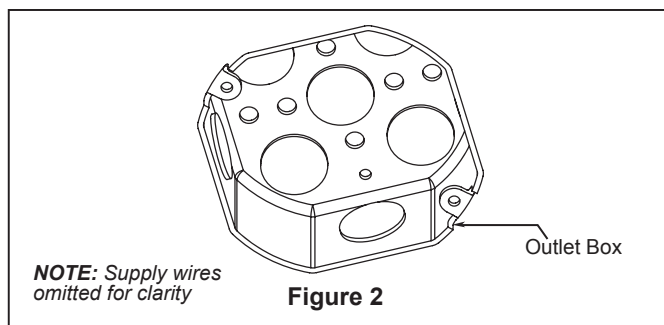
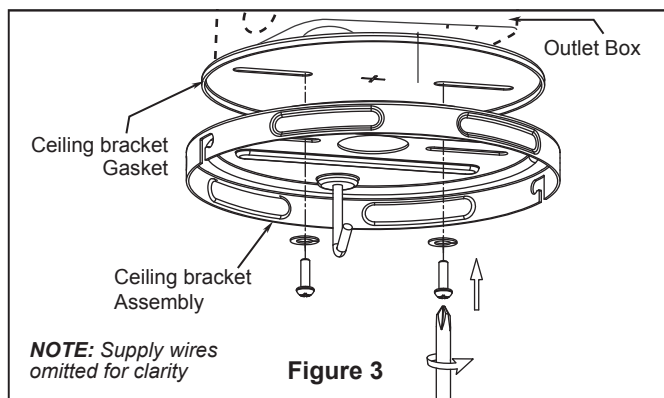

Figure 2
Figure 3
Your new ceiling fan will require a grounded electrical supply line of 120 volts AC, 60 HZ, 15 Amp Circuit. Electrical code requires use of a fan-rated outlet box to support the extra weight and motion associated with a ceiling fan. A fan-rated box will be labeled as such and typically supports up to a 70lb ceiling fan. Fan-Rated Outlet Boxes vary in ratings and design. Ensure the ratings of your ceiling fan outlet box meet the requirements for the ceiling fan being installed. Figure 1, Figure 2 and Figure 3 depicts different structural configurations that may be used for mounting the outlet box.
Deep box (Figure 2)
Deep box with brace (Figure 3)
It is critical that the outlet box and the screws are securely anchored to the building structure and capable of withstanding a load of at least 35 lbs. Failure to verify that the screws are properly installed could result in the fan falling. (Figure 2)
1. Securely attach the ceiling junction box **acceptable for ceiling support** into the building structure. Junction box is not supplied with the fan. (Figure 2)
2. Using the ceiling junction box screws and flat washers, securely attach the ceiling bracket gasket with ceiling bracket assembly to the ceiling junction box as shown. (Figure 3)
2. Set the knob and light switch of the wall-mounted control in the off (0) position.
3. Make wire connections and secure with wire nuts supplied. (Figure 2)
2. Push the canopy trim ring up to conceal the screws, such that the mounting tabs seat into the dimpled grooves in the ceiling bracket midway between the screws. (Figure 2)
2. Assemble the light kit assembly to the support bracket using the two key slots in the light kit assembly. Replace the third screw and securely tighten all three screws. (Figure 2)
3. Remove one of the three screws in the light kit assembly and retain the screw for Step 5. Slightly loosen the remaining two screws. (Figure 3)